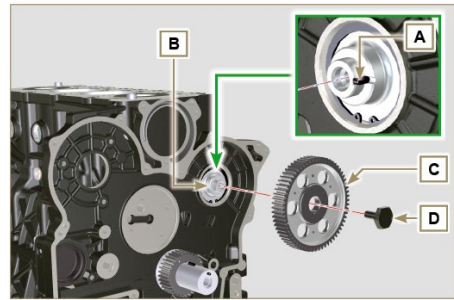

Fig 9.30
8. Position the gear **P** on the pin **H** observing all the marks **W** of the gears **C** and **S** (**Fig. 9.30**).
10. Tighten the screw **D** (**Fig. 9.30** - tightening torque at **100 Nm**).